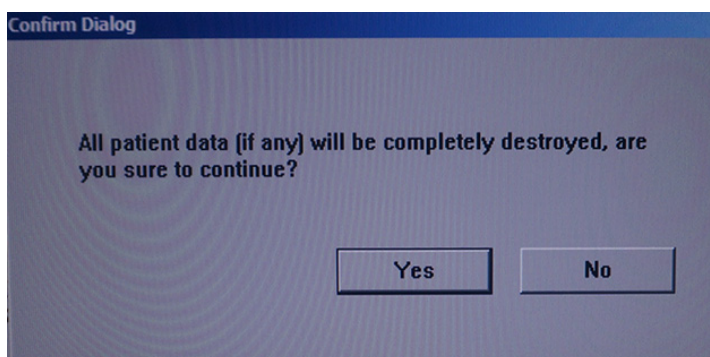

Figure 8-17. Disk selection confirmation (1)
- If you select [a], please follow Figure 8-17